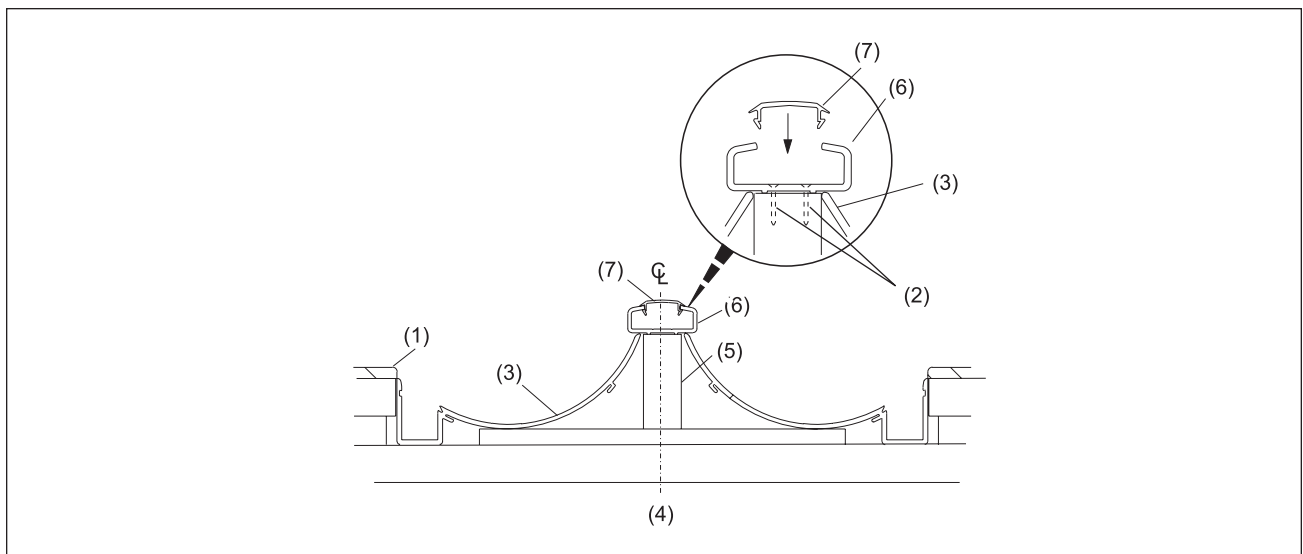

Figure 28. Align and Secure Capping to Support
1. Align the tabs on the division capping with the grooves in the gutter. Refer to *Figure 28*.
2. Secure the capping to the support with #8 x 1-1/4" hole cutting screws. Start approximately 1" (25 mm) from the foul line end of capping and install the screws side by side into grooves on 12" (305 mm) centers. Refer to *Figure 28*.